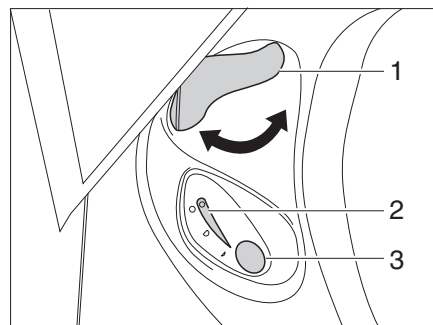

Fig. 144 Operating unit Thetford toilet
- Before flushing open the sliding trap of the Thetford toilet. To do this, turn the slide lever (Fig. 144,1) anticlockwise.
- For flushing, press the blue flush button (Fig. 144,3).
- After flushing close the sliding trap. To do this turn the slide lever (Fig. 144,1) clockwise.
The indicator lamp (Fig. 144,2) goes on whenever the Thetford cassette has to be emptied.
- Turn the slide lever (Fig. 144,1) clockwise. The sliding trap is closed. To empty, the sliding trap in the Thetford toilet **must** be closed.